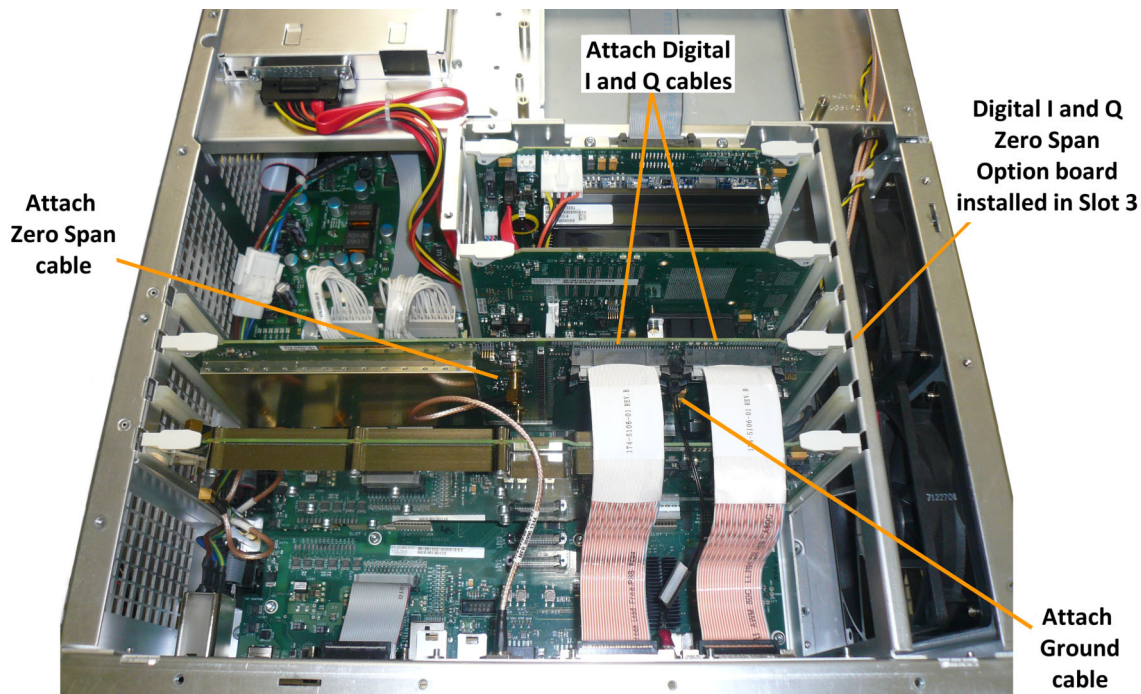

Figure 4: Installing the option board
1. Slide the option board (Digital I and Q / Zero Span) into Slot 3 (counting from the rear of the instrument). (See Figure 4.)